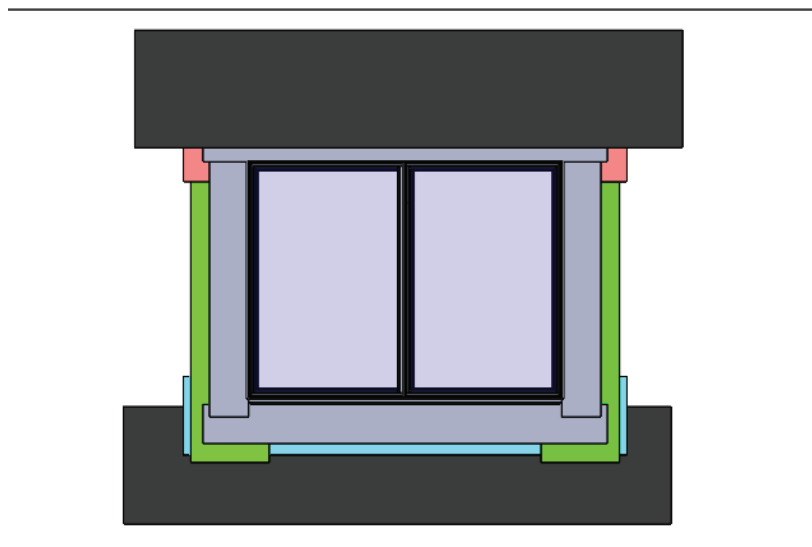

FIGURE 8
9. Install 6" SASM in same sequence as framing wrap, 3" beyond nail fin. Ensure that wall wrap is layered over head flashing and that jamb flashing is layered over wall wrap. See Figure 8 below.